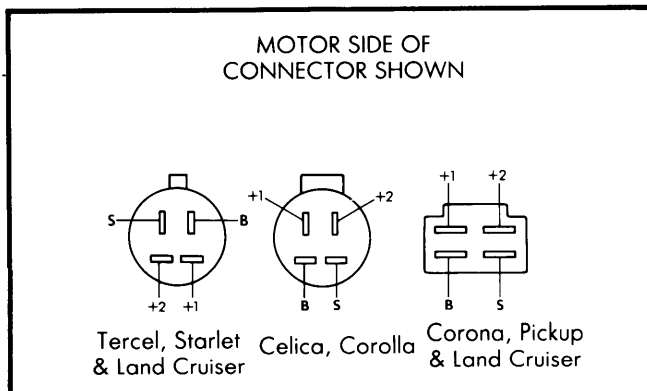

Fig. 1 Front Wiper Motor Terminal Locations for Jumper Wires and Continuity Checks
1) Unplug connector at wiper motor. Use an ohmmeter to check continuity between motor case and ground. If not present, repair motor ground. Make sure motor is in park position, then check that continuity exists between terminals "+1", "+2" and "S". No continuity should exist between "B" and all other connector terminals. See Fig. 1.